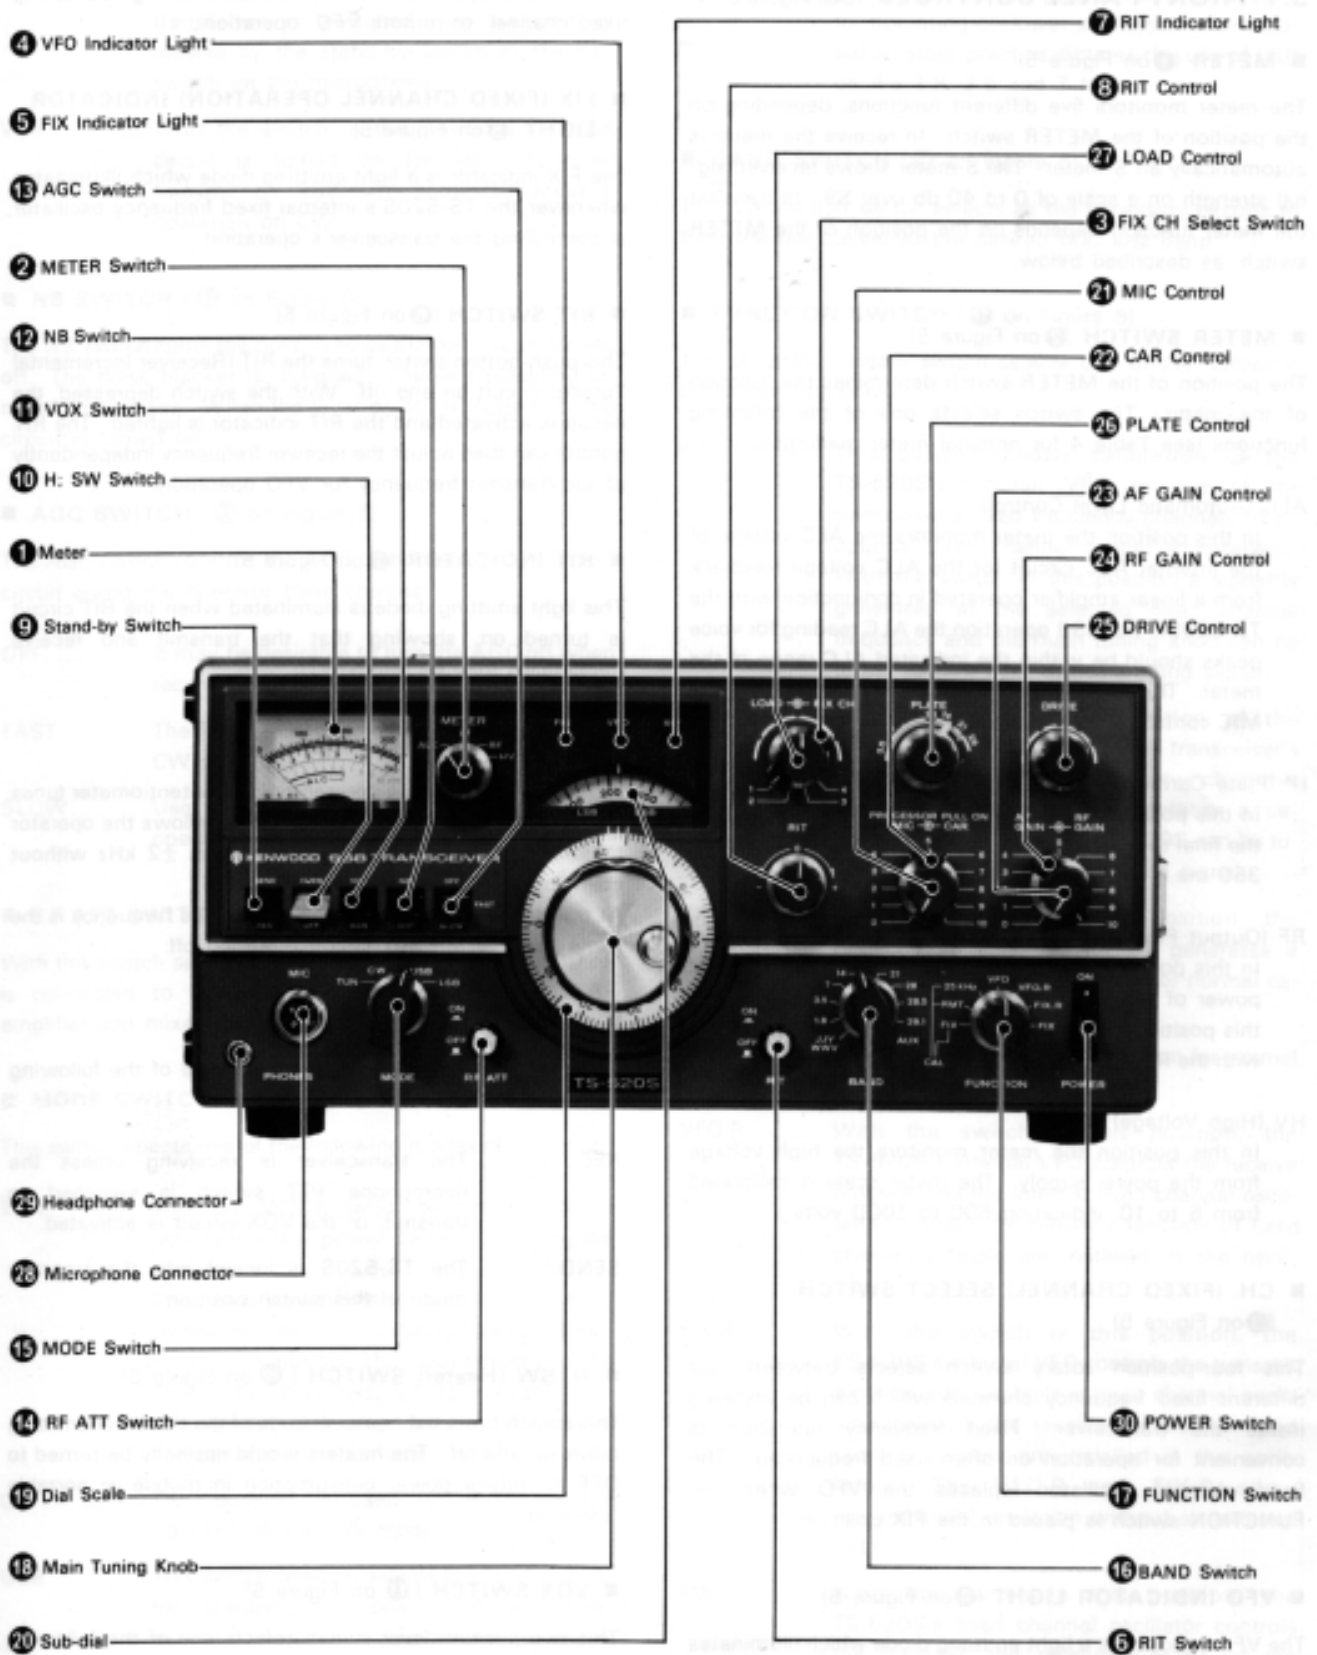

Fig. 5 Front Panel Controls
3.1 FRONT PANEL CONTROLS (See Figure 5)
■ METER (1 on Figure 5)
■ METER SWITCH (2 on Figure 5)
■ CH. (FIXED CHANNEL) SELECT SWITCH (3 on Figure 5)
■ VFO INDICATOR LIGHT (4 on Figure 5)
■ FIX (FIXED CHANNEL OPERATION) INDICATOR LIGHT (5 on Figure 5)
■ RIT SWITCH (6 on Figure 5)
■ RIT INDICATOR (7 on Figure 5)
■ RIT CONTROL (8 on Figure 5)
■ STAND-BY SWITCH (9 on Figure 5)
■ H. SW (Heater) SWITCH (10 on Figure 5)
■ VOX SWITCH (11 on Figure 5)
■ **NB SWITCH** (12 on Figure 5)
■ **AGC SWITCH** (13 on Figure 5)
■ **RF ATT SWITCH** (14 on Figure 5)
■ **MODE SWITCH** (15 on Figure 5)
■ **BAND SWITCH** (16 on Figure 5)
■ **FUNCTION SWITCH** (17 on Figure 5)
■ **MAIN TUNING KNOB** (18 on Figure 5)
■ **DIAL SCALE** (19 on Figure 5)
■ **SUB-DIAL** (20 on Figure 5)
(21 on Figure 5)
■ **CAR CONTROL** (22 on Figure 5)
■ **AF GAIN CONTROL** (23 on Figure 5)
■ **RF GAIN CONTROL** (24 on Figure 5)
■ **DRIVE CONTROL** (25 on Figure 5)
■ **PLATE CONTROL** (26 on Figure 5)
■ **LOAD CONTROL** (27 on Figure 5)
■ **MIC CONNECTOR** (28 on Figure 5)
■ **PHONES JACK** (29 on Figure 5)